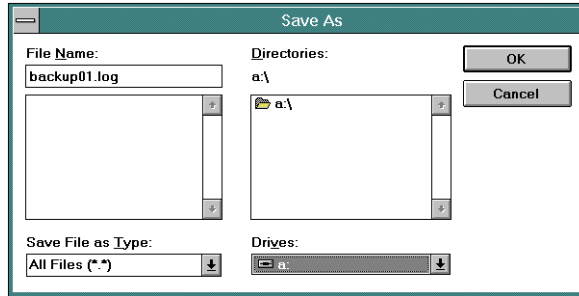

Figure 2-41. Save (Log) As Dialog Box
5. In Figure 2-41, an empty diskette is in drive *a:*. The file name of the log file to be saved is “backup001.log.”